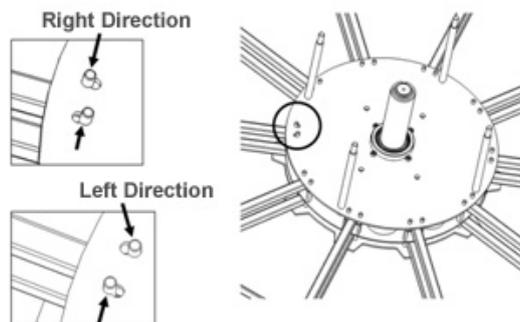

Fig. 12: Right take-off and left take-off
4. Mount the complete spoke wheel (use the correct slotted hole; see Fig. 12) (Torque for M8: 10 Nm).